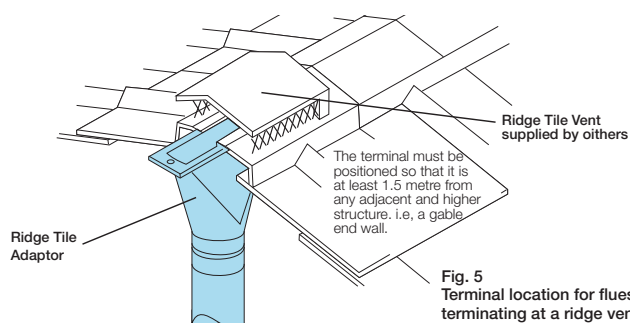

Fig. 5
**18 Ridge Tile Adaptor** Used to adapt the vent to the rectangular opening or Ridge Tile Vents which exhaust the combustion products only at the apex of the roof. Separate instructions are provided with this component. See Fig 5.
To avoid adverse wind or pressure effects which might impede vent flow, the termination must be correctly located in relation to the roof and any nearby structures. Building Regulations, via BS 5440, stipulate the legal requirements shown in Figs 5 to 8. NB A ridge tile vent terminal must be positioned so that it is not less than 1.5m from any adjacent structure, i.e. the gable end wall of an adjacent and higher dwelling. See Fig 5.